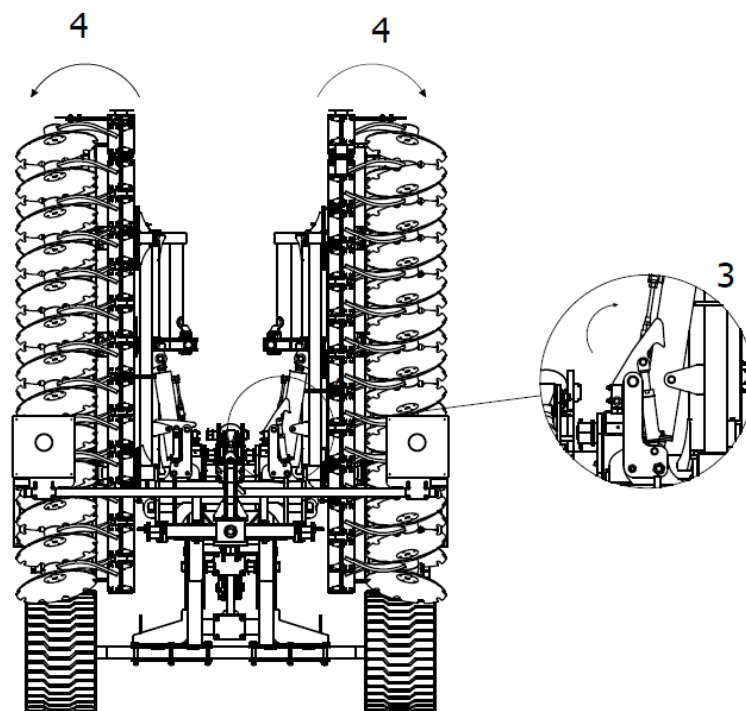

Fig. 7 Machine opening sequence: 3- release the hook of the hydraulic wing lock mechanism 4- open the wings of the machine.
3. Once you have ensured that the hook of the hydraulic wing lock mechanism will allow the machine wings to be unlocked, you can proceed to open them fully (fig.7).